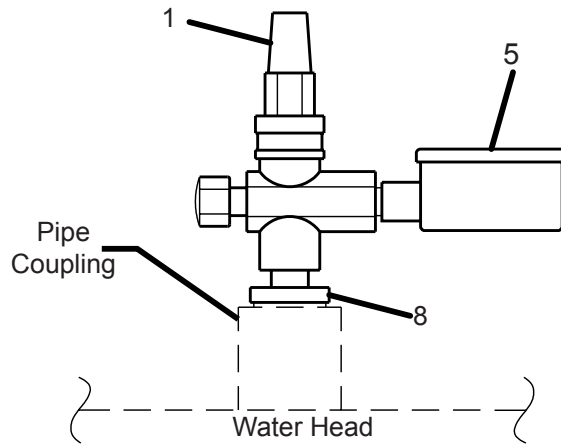

FIGURE 2 - WATER BOX CONNECTIONS
5. Install fittings on water box vent connections. See *Table 2 and Figure 2 on page 4*.